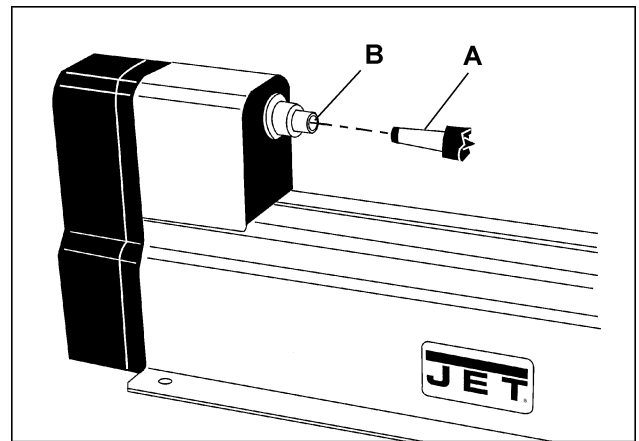

Fig. 8
1. Clean the shank of the spur center (A, Fig. 8) and the inside of the headstock spindle (B, Fig. 8).